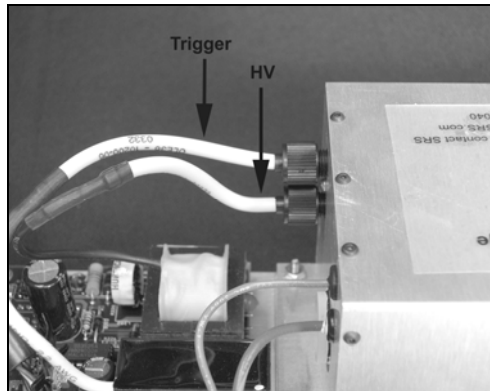

Figure 24. Connect the trigger and HV connector plugs to their respective receptacles.
9. Connect the trigger and HV lead connectors to the appropriate receptacle, as shown in Figure 24. Be sure to tighten the knurled nuts for each connector to the receptacle.